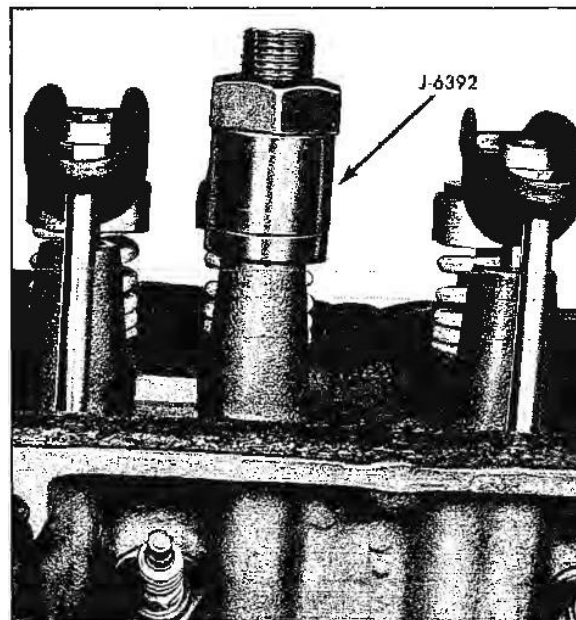

Fig. 6-26 Tool Installation for Removing Rocker Arm Stud
4. Place washer J-6392-3 at bottom of rocker arm stud (Fig. 6-26).
6. Place spacer J-6392-2 over stud remover J-6392-1 (Fig. 6-26).
7. Thread 7/8" standard nut on stud remover and turn nut until stud is out of cylinder head (Fig. 6-26).